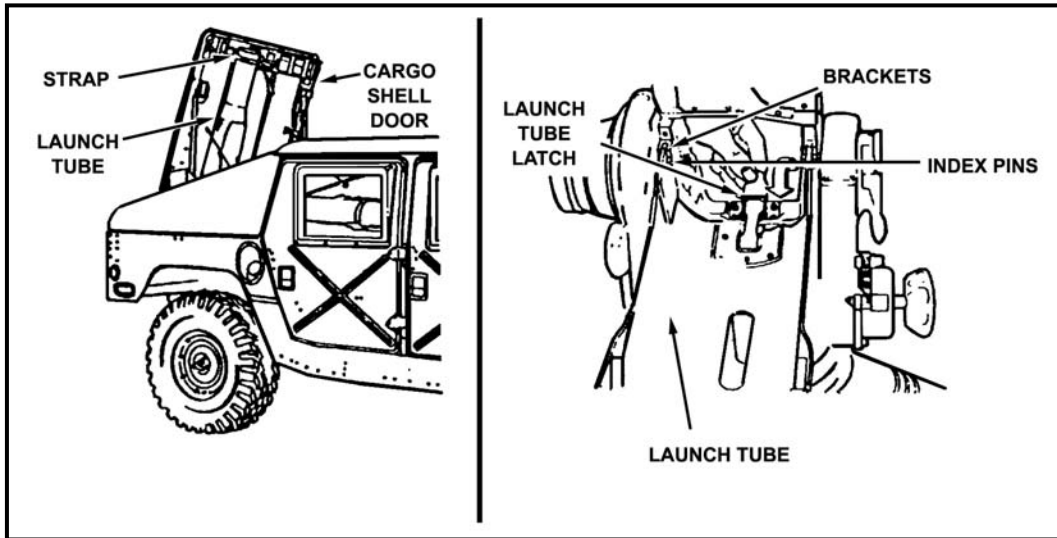

Figure 3-10. Launch tube latch.
- (1) The driver-loader uses the forward latch to open the cargo shell door and hands the launch tube to the gunner.
- (2) The gunner installs the launch tube on the traversing unit and secures it with the launch tube latch (Figure 3-10, page 3-10).